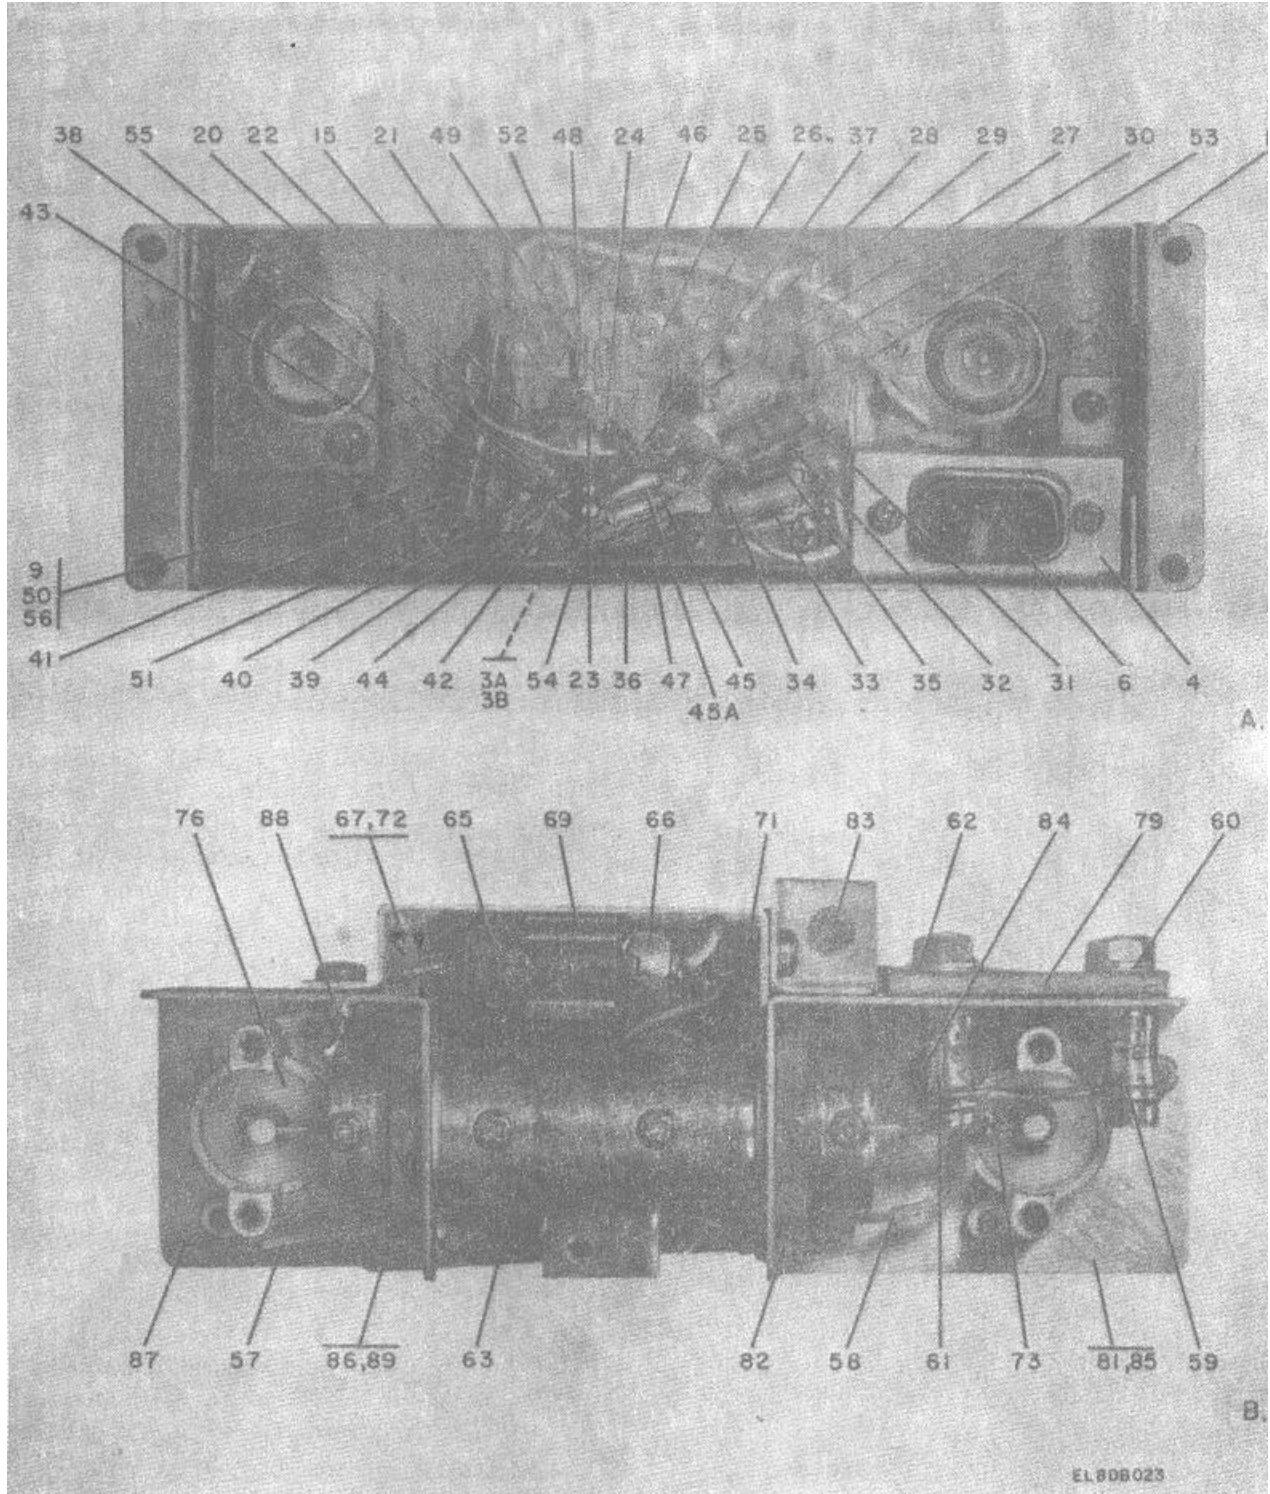

Figure 4-13. Discriminator A8, Parts Location.
(1) Remove discriminator A8 (para 3-17a).
(2) Refer to figure 4-13. Remove the housing (1A) by removing seven screws (-2 and -2A) and lockwashers (-3).
(3) Remove the connector bracket (4 or 5B) by removing two screws (-5) and two nuts.
(4) Remove connector A8P3(6) from the connector bracket by removing two screws (-8) and nuts (-7).
(5) Remove the terminal board assembly (9) by removing three screws (-12) and spacing sleeves (-10) from the RF shields (81 and 86) and one screw (-13), and spacing sleeve (-11) from the transformer (63). Tag and unsolder wires as necessary to remove board.
(6) Remove resistor A8R9 (15) from the terminal board (9, 50, and 56) by removing nut (-16), flat washer (-18), and screw (-19) or two screws and bracket.
(7) Unsolder the parts (20 to 49) from the terminal board (50) as necessary for test and replacement.
(8) Remove the Teflon feedthrough terminals (51) and Teflon stud terminals (52) as necessary by pulling the terminal pin away from the Teflon base. Then, push the terminal out of terminal board (50 and 56).
(9) Remove the resistor holder (67) from the RF shields (81 and 86) by removing two screws (-68).
(10) Remove resistors A8R1 (66) and A8R3 (65) from the resistor holder.
(11) Remove connector receptacle A8P2 (73) from RF shield number 1 (81) by removing two screws (-74) and flatwashers (-75A).
(12) Remove connector receptacle A8P1 (76) from RF shield number 2 (86) by removing two screws (-77) and flat washers (-78A).
Legend for figure 4-13.